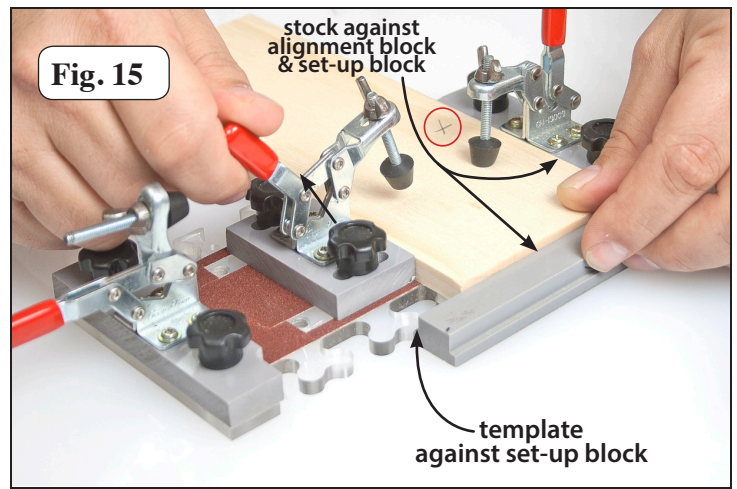

Fig. 15
Part of what makes the Fast-Joint mini so easy to use is the machined set-up block. This block allows you to easily position your stock, to the off-set distance between the router bit cutting surface and the outer edge of the brass bushing. We will be making the cuts on the side of our box first using the male Heart template on the jig. For this cut you can place the stock flat on either the left side or the right side of your jig. Place a reference mark on side edge of the stock (X). This edge must always be placed up against the template alignment block for the joint to align properly. Adjust the rubber feet on the toggles for the thickness of the stock you are cutting. Your toggle clamp should produce a slight snap when engaged. If the toggle is too tight it may cause the jig to flex. If you are cutting smaller stock, add the third toggle to the jig and adjust the third toggle for the thickness and width of stock if needed. With your stock on the jig and your reference mark facing the template alignment block, place your gray set-up block with the wide side facing down on your router table. Slide the block up against the edge of the male Heart template. While holding the set-up block against the edge of the Heart template, slide your stock up against your template alignment block. Next, slide your stock forward until it contacts the set-up block and secure the stock in place with toggle clamp. (See Fig. 15).
Now that one end of the box is cut, you will now flip the stock, keeping your reference mark (X), against the template alignment block, and following the same instructions shown in "**Fig. 15**" on page 8. for set-up. Once the stock is properly set-up and secure in the jig, make the cut (See **Fig. 19**). After making this cut, repeat this entire process on the other side of your box.